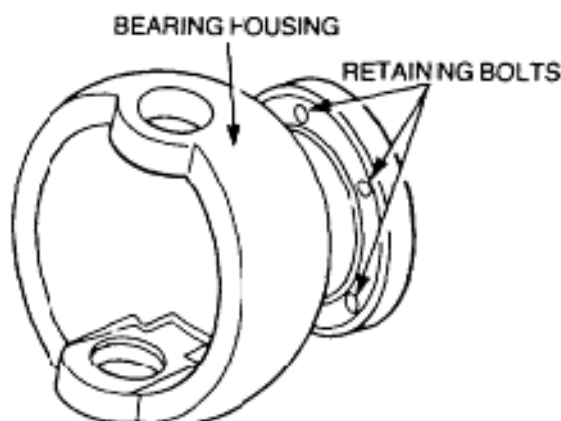

Figure 100 Bearing Housing Removal
- j. Remove the seven bolts retaining the bearing housing to the axle case (Figure 100) and remove the bearing housing.